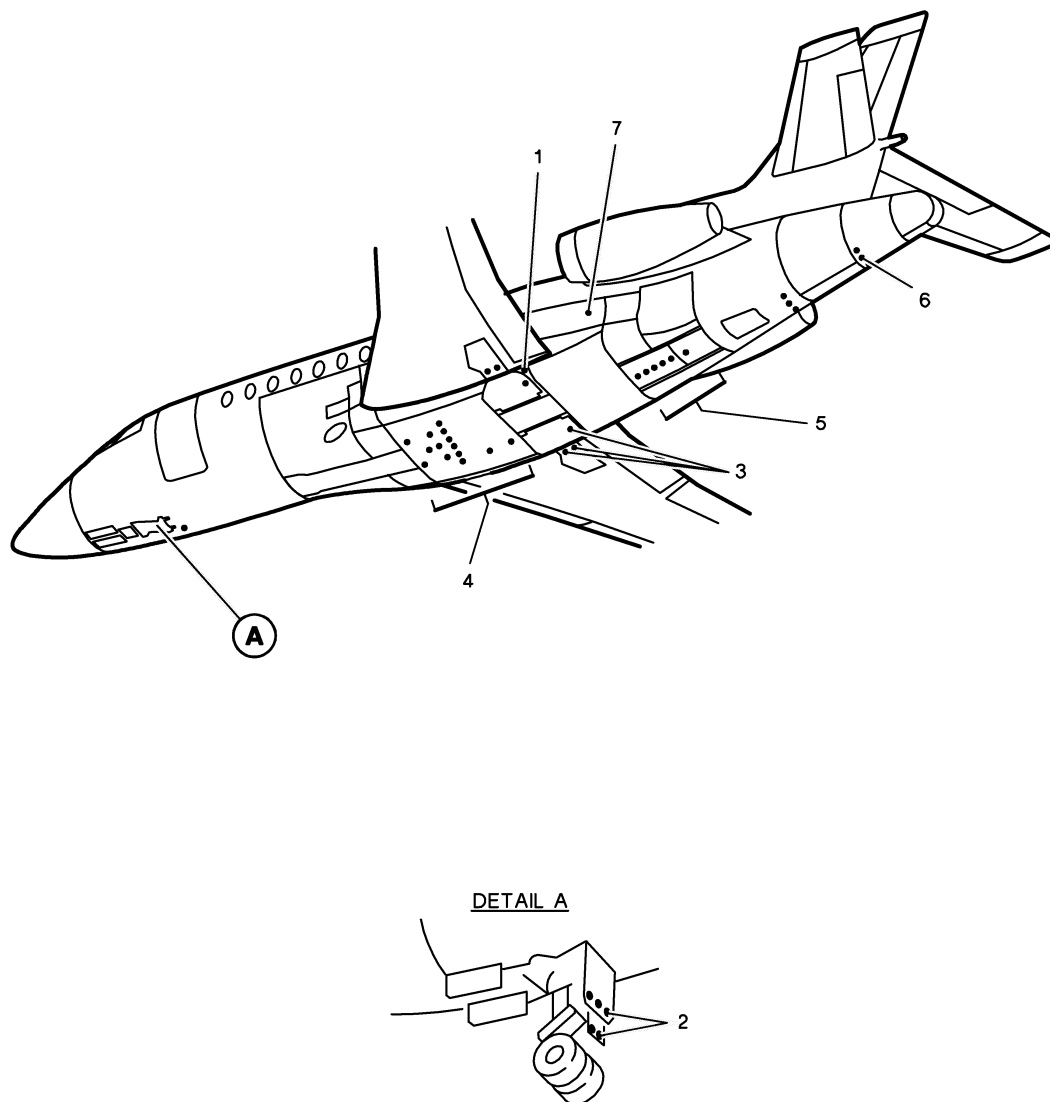
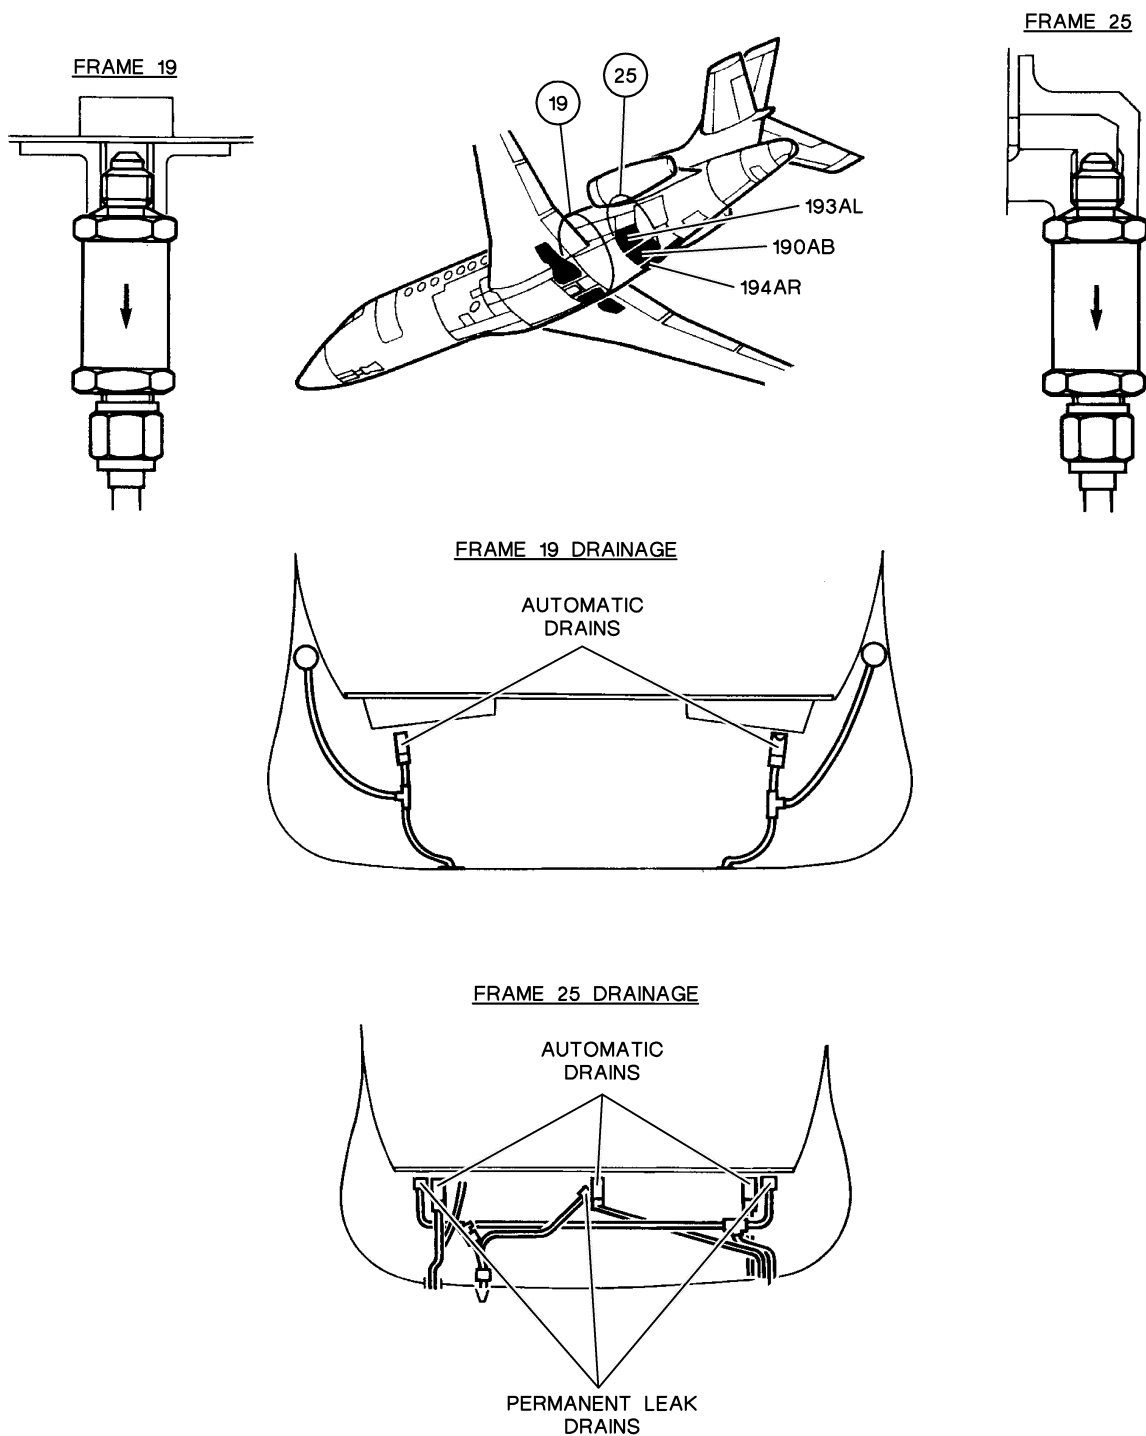

Figure 3: CONDENSATION AND STREAM WATER DRAINS - LOCATION (3/5)
Figure 4: CONDENSATION AND STREAM WATER DRAINS - LOCATION (4/5)
- at the APU air intake (6-fig. 3),
- at the turbofan (5-fig. 3).
Refer to **fig. 1**, ◆ , **fig. 3** and **fig. 4**
Refer to **fig. 4**